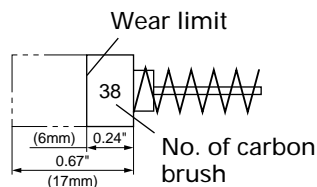

Fig. 20
3. Inspecting the carbon brushes (Fig. 20)
**NOTE:** Use HITACHI carbon brush No. 38 indicated in Fig. 20.